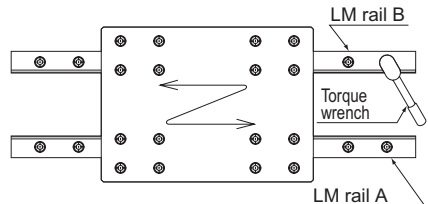

Fig.24
- (4) Slide the table a few strokes to fit the LM blocks to LM rail B, then fully fasten LM rail B using a torque wrench. (Fig.24)